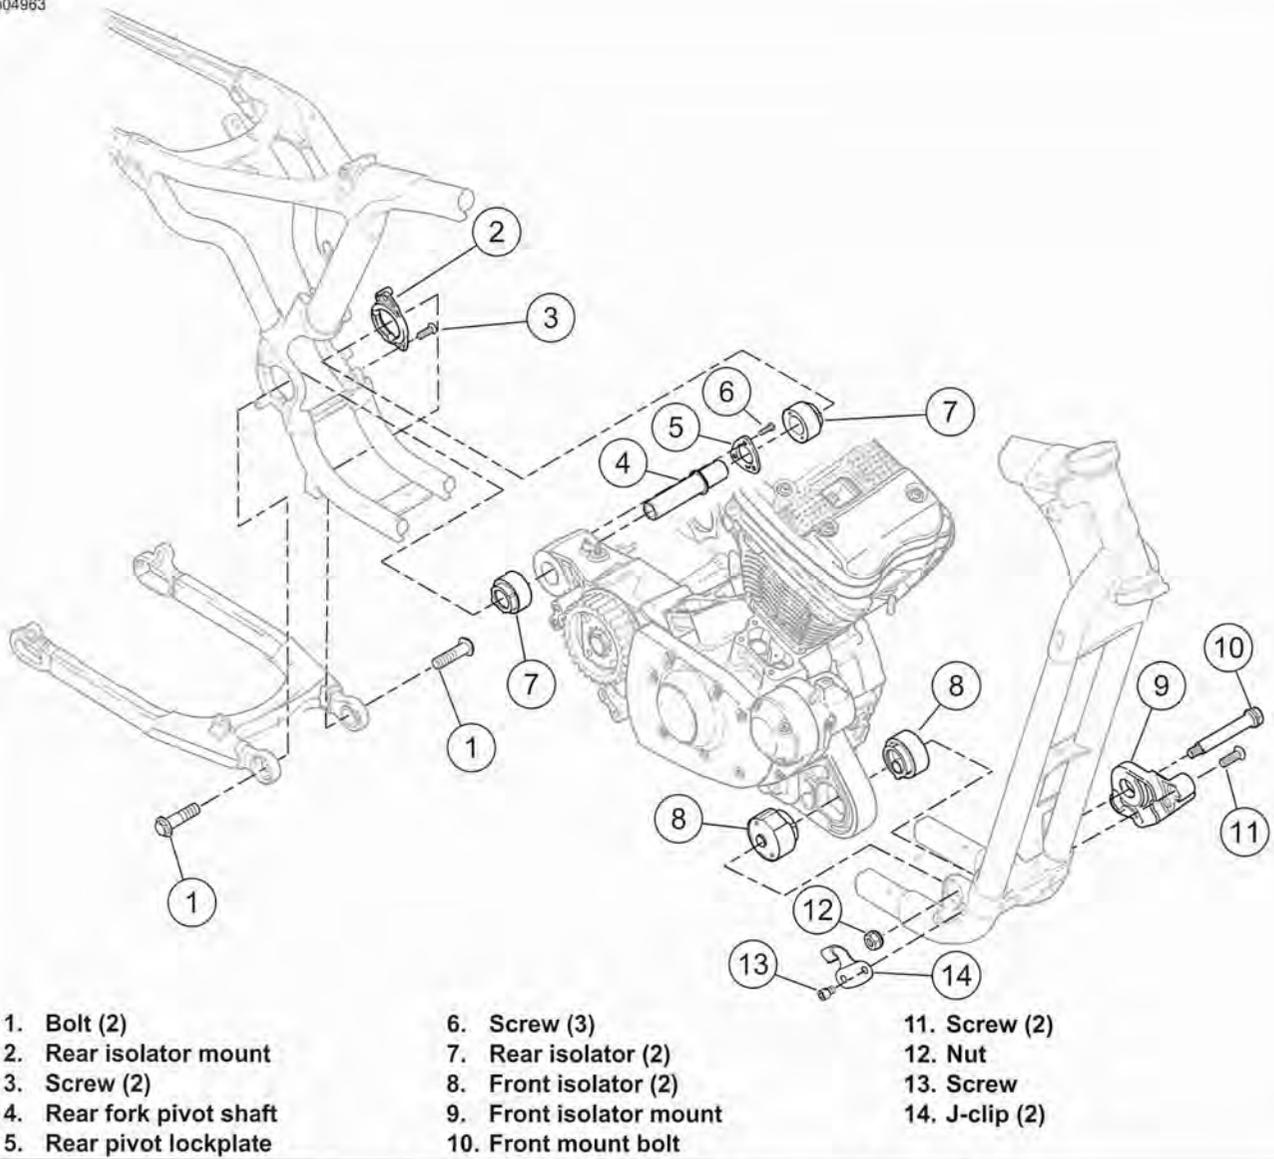

Figure 3-26. Engine Mount/Isolator Components (typical)
36. See Figure 3-26. Remove fasteners (13) and j-clip (14) from each side of frame.
37. Loosen, but do not remove, two front isolator mounting bracket screws (11) on left side of engine.
38. Loosen, but do not remove, two rear isolator mounting bracket screws (3) on left side of engine.
40. Remove front engine mount bolt (10) and nut (12).
41. Remove two screws (11) and front isolator mount (9).
42. Remove two rear engine mount/rear fork pivot bolts (1). Pull rear fork back until fork pivot bosses clear the frame.
44. Remove two screws (3) and rear isolator mounting bracket (2) from frame.
1. See Figure 3-26. Make sure pivot shaft (4) and rear pivot lockplate (5) are mounted on engine mounting boss at rear of engine. Position right rear isolator (7) on pivot shaft on rear of engine. Do not install left rear isolator at this time.
2. Position right front isolator (8) on front of engine. Do not install left front isolator at this time.
5. Install left rear isolator (7) over pivot shaft (4). Install rear isolator mount (2) over left rear isolator and attach to frame with two screws (3). Do not tighten screws at this time.
7. Install left front isolator (8) and front isolator mount (9) to left side of frame with two screws (11). Do not tighten screws at this time.
8. Insert front engine mount bolt (10) from left side, through isolators and crankcase boss. Place nut (12) on bolt but do not tighten at this time.
9. Tighten two screws (11) securing front isolator mount (9) to 25-35 ft-lbs (33.9-47.5 Nm).
10. Tighten two screws (3) securing rear isolator mount (2) to 25-35 ft-lbs (33.9-47.5 Nm).